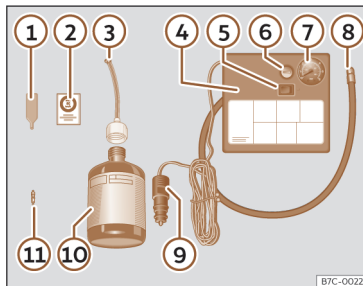

Fig. 246 Standard display: contents of the tyre mobility system.
>>> **Fig. 246:**
- Unscrew the tyre valve cap and insert. Use the device >>> **Fig. 246** ① to remove the valve cap. Place it on a clean surface.
- Shake the tyre sealant bottle vigorously >>> **Fig. 246** ⑩.
- Screw the tyre inflation hose >>> **Fig. 246** ③ into the tyre sealant bottle. The bottle's seal will break automatically.
- Remove the filler cap >>> **Fig. 246** ③ and screw the open end of the tube into the tyre valve.
- Replace the valve insert with the device >>> **Fig. 246** ① onto the tyre valve.
- Screw the tyre inflation tube of the compressor >>> **Fig. 246** ⑧ onto the tyre valve.
- Check that the air evacuation screw is closed >>> **Fig. 246** ⑥.
- Attach the connector >>> **Fig. 246** ⑨ to the vehicle's 12 volt power outlet >>> page 256.
- Switch on the air compressor with the ON/OFF switch >>> **Fig. 246** ⑤.
- Attach the sticker >>> **Fig. 246** ② to the instrument cluster display, within the driver's field of vision.
Screw in the inflator tube >>> Fig. 246 ⑧ again and check the pressure on the gauge ⑦.